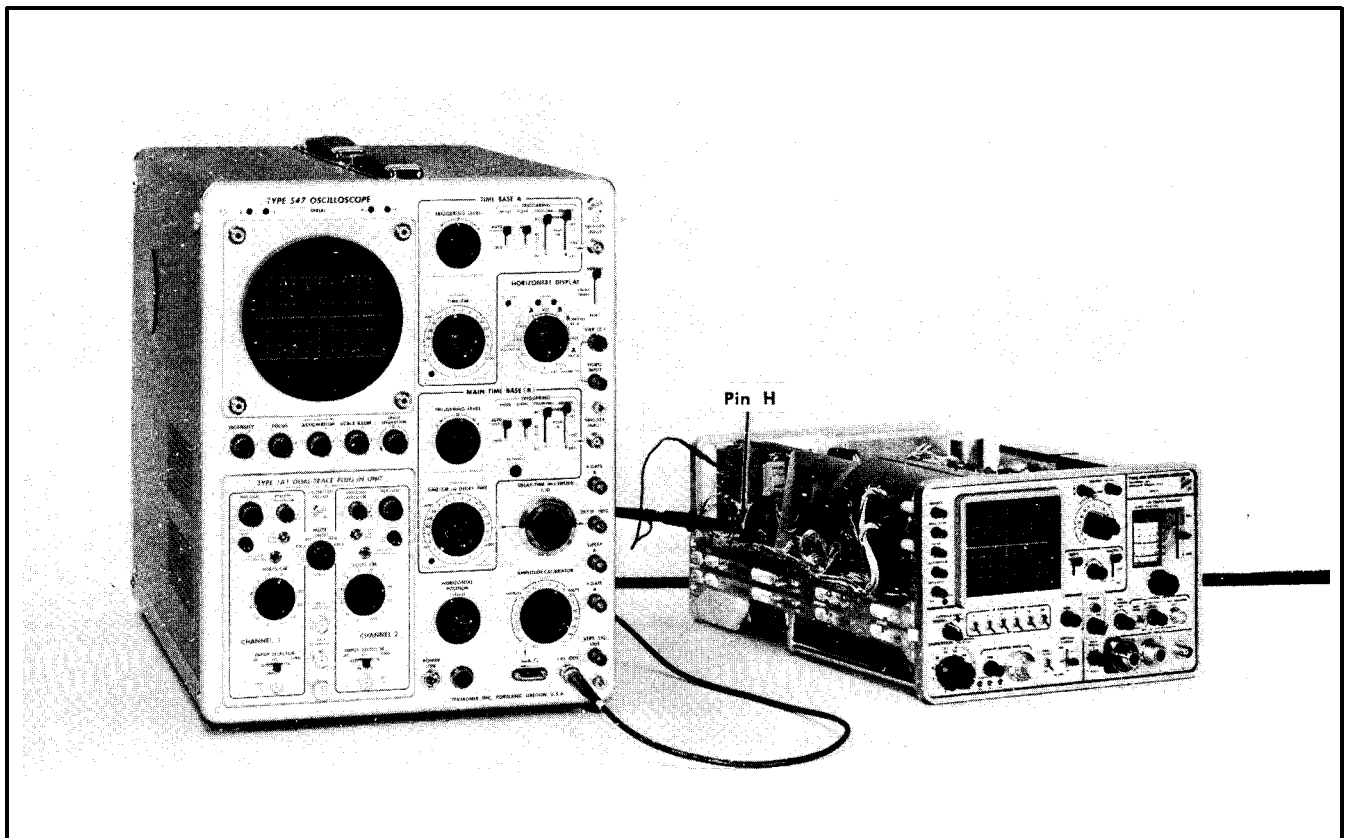

Fig. 6-9. Test equipment setup for adjusting Vertical Amplifier Gain.
- Test equipment setup is shown in Fig. 6-9.